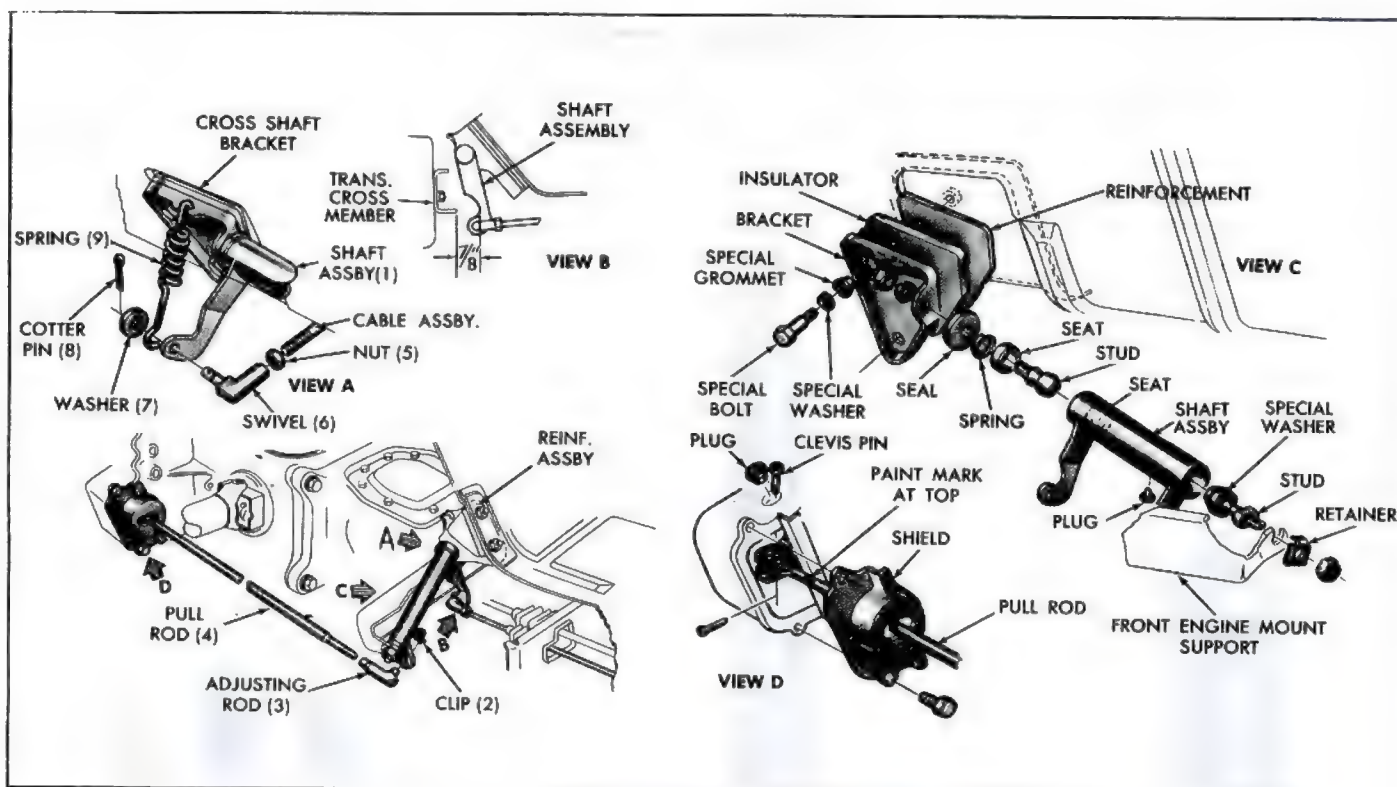

Fig. 7-9—Clutch Linkage Exploded
The clutch fork pull rod assembly is a two piece design and provides for clutch lash at the swivel end which attaches to the cross shaft (fig. 7-9).
CLUTCH LINKAGE ADJUSTMENT (Fig. 7-9)
Removal (Fig. 7-9)
Installation (Fig. 7-9)
CLUTCH LEVER CONTROL CROSS SHAFT AND BALL STUDS (Fig. 7-9)**Removal**
1. Lubricate ball stud and seats with chassis lubricant and reverse Removal procedure for assembly, referring to Figure 7-9 for order of assembly.